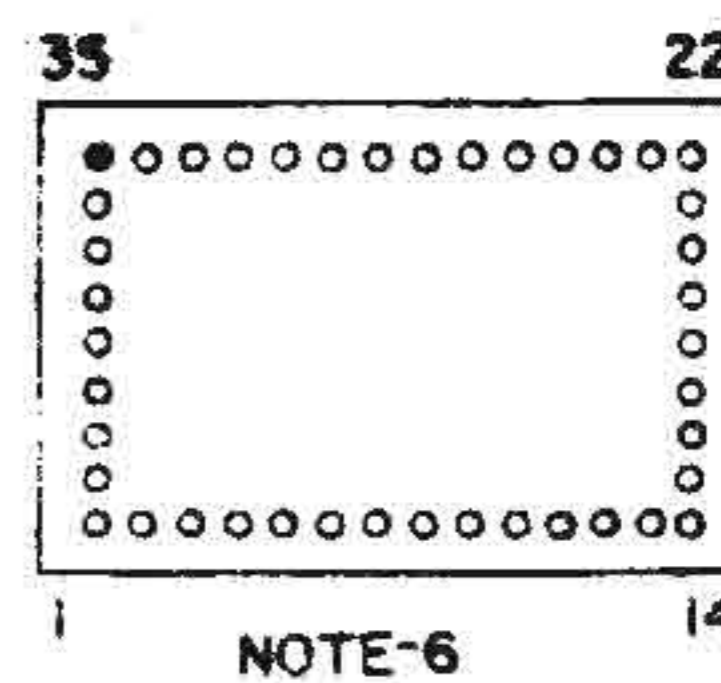

Fig. 2-41. Relay driver RD, schematic circuit diagram
i. Relay Driver RD (fig. 2-41). Three relay drivers are used in the LORD 1A5A2. Each relay driver has 12 driver circuits. Four of them consist of a single transistor, with a protection diode connected from its collector to the VEN2 line. The other eight drivers consist of two transistors, each one having a protection diode connected from its collector to the VEN1 line. The collector of the first transistor drives the base of the second one, therefore, when one transistor saturates, the other cuts off, and vice-versa.